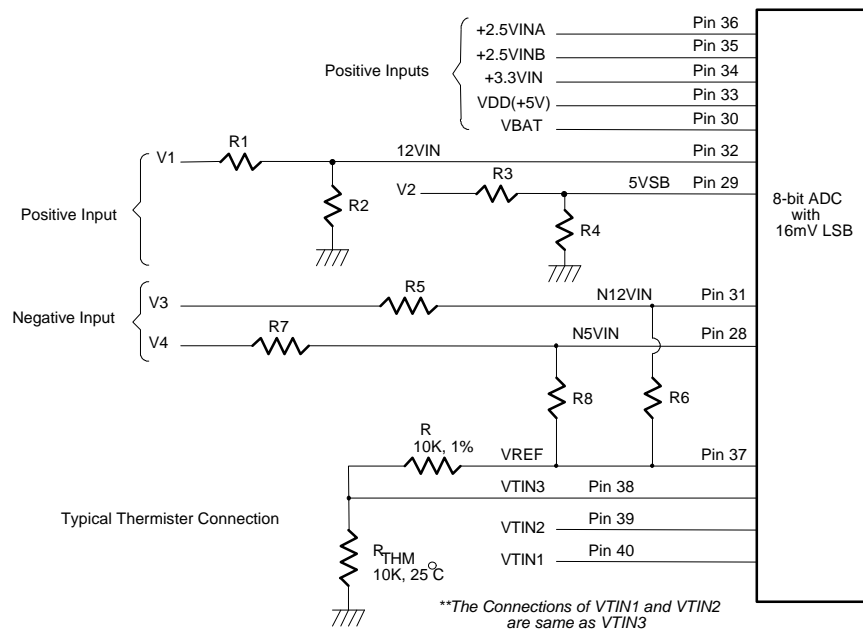

Figure 11.
The maximum input voltage of the analog pin is 4.096V because the 8-bit ADC has a 16mV LSB. Really, the application of the PC monitoring would most often be connected to power suppliers. The CPU V-core voltage ,+3.3V and battery voltage can directly connected to these analog inputs. The 5VSB and +12V inputs should be reduced a factor with external resistors so as to obtain the input range. As Figure 11 shows.
The negative voltage should be connected two series resistors and a positive voltage VREF (is equal to 3.6V). In the Figure 11, the voltage V3 and V4 are two negative voltage which they are -12V and -5V respectively. The voltage V3 is connected to two serial resistors then is connected to another terminal VREF which is positive voltage. So as that the voltage node N12VIN can be obtain a posedge voltage if the scales of the two serial resistors are carefully selected. It is recommended from Winbond that the scale of two serial resistors are R5=232K ohms and R6=56K ohm. The input voltage of node -12VIN can be calculated by following equation.
The W83782D can connect three thermistors to measure three different environment temperature. The specification of thermistor should be considered to (1)  $\beta$  value is 3435K, (2) resistor value is 10K ohms at 25°C. In the Figure 11, the thermistor is connected by a serial resistor with 10K Ohms, then connect to  $VREF$  (Pin 37).